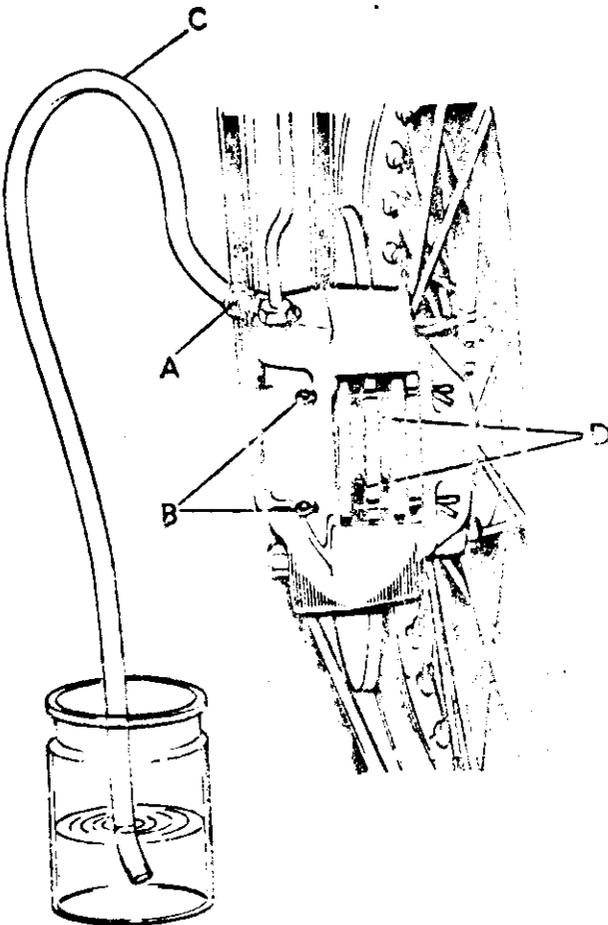
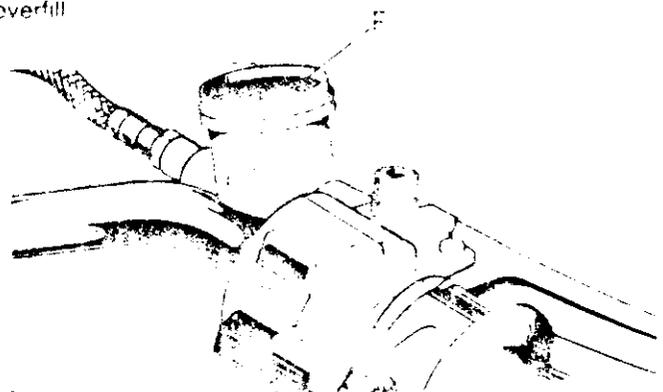

Fig. F7. Showing arrangement for bleeding the front brake
Fig. F5. Showing the front brake reservoir fluid level
Connect a suitable sized rubber "pipe" "C" Fig. F7 to the bleed nipple "A" Fig. F7 and suspend the free end of the tube in a glass jar with the open end immersed in at least 1/2 in. (12.7mm.) of brake fluid. Remove the screwed cap from the master cylinder reservoir and take out the rubber diaphragm "E" Fig. F5. Now slacken the bleed nipple 1/2 to 3/4 of a turn, (with the bleed pipe still attached).
Remember to maintain the level of hydraulic fluid in the master cylinder during the entire operation. The correct level for the fluid is shown in Fig. F5 at "F". This will be the correct level when the brake pads are NEW. When replacing the rubber diaphragm (Fig. F5 "E") it will be easier to replace the cap with the diaphragm in a folded condition. See Fig. F9.
If at any time it has been necessary to replenish the system with hydraulic fluid during the life of one set of brake pads, remember that when new pads are fitted the fluid level will rise appreciably in the cylinder and may spill onto the gas tank. Therefore the level will have to be corrected to that shown in Fig. F5. (Hydraulic fluid instantaneously corrodes cellulose paint work and great care should be exercised when handling this fluid)
The brake fluid level in the master cylinder reservoir should be as shown in Fig. F5 (F). There is a mark running around the inside periphery of the reservoir about 1/8 in. (6.35mm) from the top. The level will drop slightly as the pads wear and when new pads are fitted the fluid will return to the original level provided no leakage has occurred.